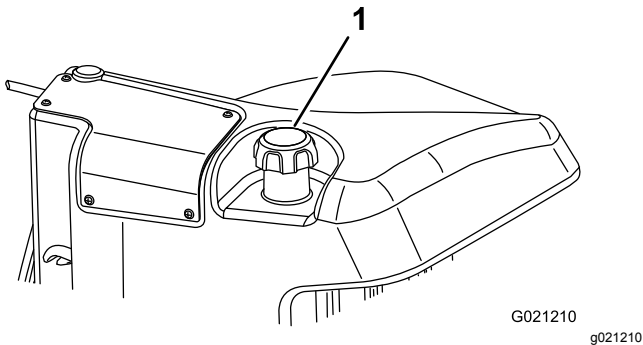

Figure 32
3. Remove the cap from the fuel tank (Figure 32).